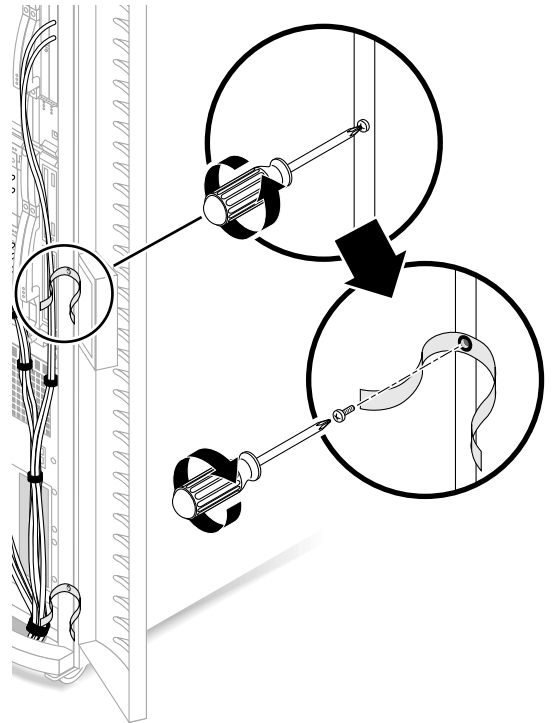

FIGURE 8 Front Door Maintenance Strap
2. Attach a 18.0 in. (45.7 cm) green cable strap (No. 6) and secure with the M4x10 screw (FIGURE 8).